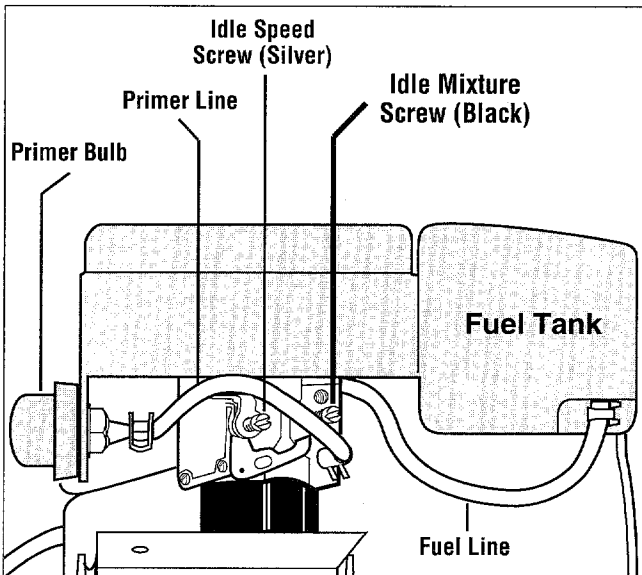

Figure 14: Idle mixture screw can be adjusted.
1. Locate the carburetor idle mixture screw (see Figure 14). It is directly under the air filter and is black. **DO NOT ADJUST THE SILVER-COLORED SCREW.**